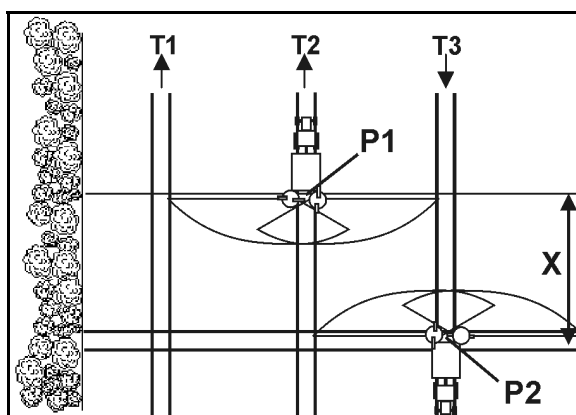

Fig. 71
- Open the slide gate after entering the tramline at point P1 (Fig. 71), when the spreader discs are at distance X from the tramline of the headland.
- Close the slide gate before leaving the tramline at point P2 (Fig. 71), when the spreader discs are located at the level of the first tramline of the headland.